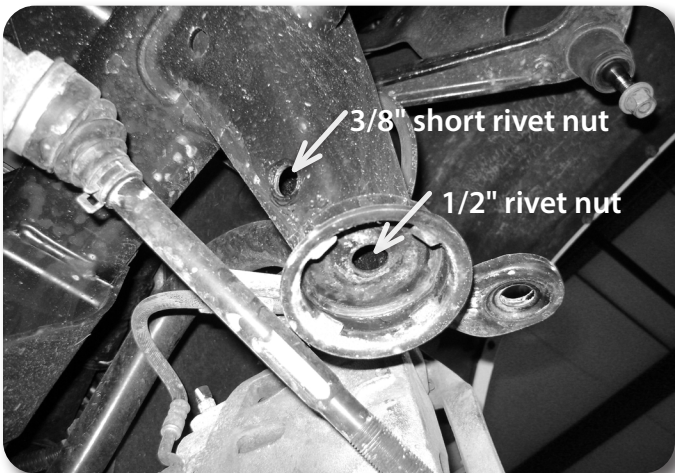
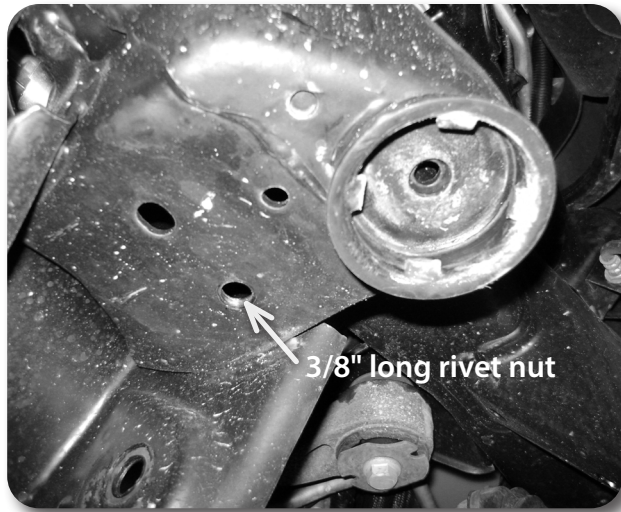

Figure 21A
Figure 21B
34. Six holes need to be slightly clearanced on the factory bump stop mounts to accept the rivet nuts. For the 3/8" rivet nuts drill the holes to 17/32" and 11/16" for the 1/2" rivet nuts. In both cases, if the necessary bits are not available, a rotary grinding tool can be used to enlarge the holes to the proper size. Take care not to open the holes too much. Drill out the holes shown in **Figure 21A** (front mount) and **Figure 21B** (rear mount).